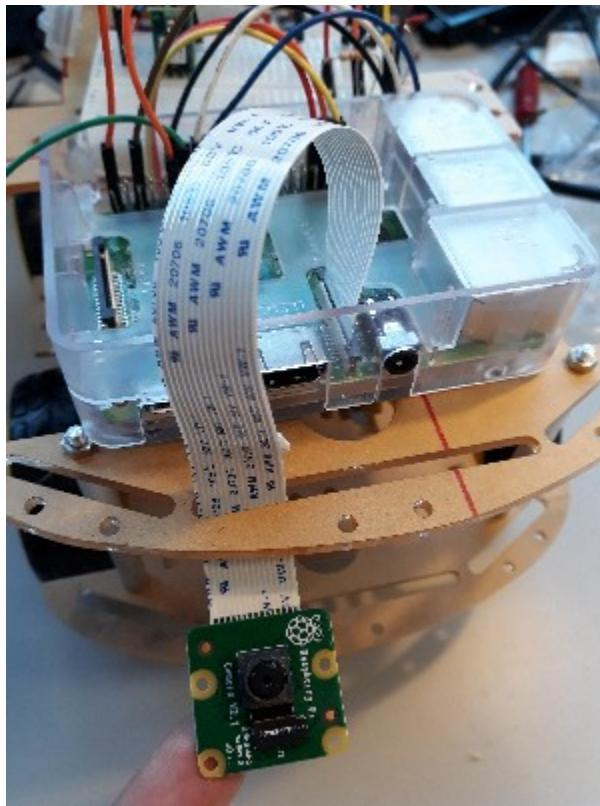

Figure 30: Camera board ribbon cable attached to the raspberry pi
Step 9: Finally the camera and camera mount can be attached to the buggy. First, slide the ribbon cable of the camera through the slot in the front of the buggy (figure 30). The camera is then connected to the raspberry pi using a ribbon cable. To connect the camera to the pi, you must lift the black clip shown in figure 30 and slide in the ribbon cable with the metal contacts facing away from the USB ports. Once the ribbon cable is in place, the black clip can be pressed down, locking the ribbon cable in. **If you struggle with this ask a demonstrator for help!! They ribbon cable is very easy to damage.**